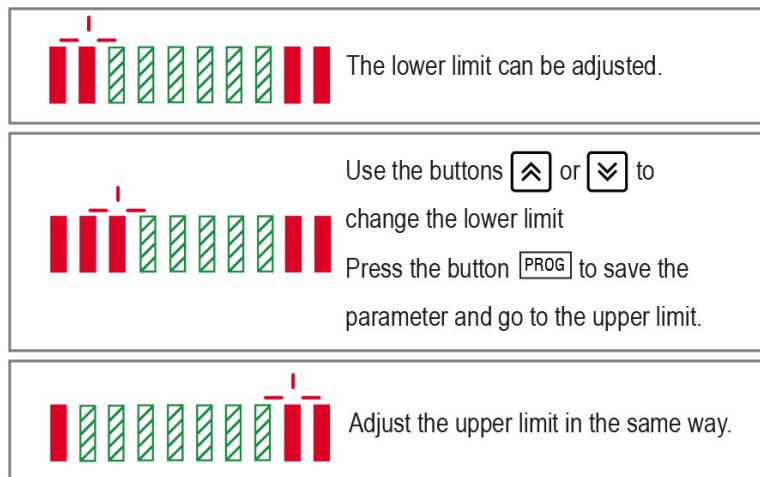

Fig. 6.3 Alarm limits adjustment
To set up the upper (HL) and lower (LL) limits, press and hold the button **PROG** for 3 seconds and then proceed in accordance with Fig. 6.3.